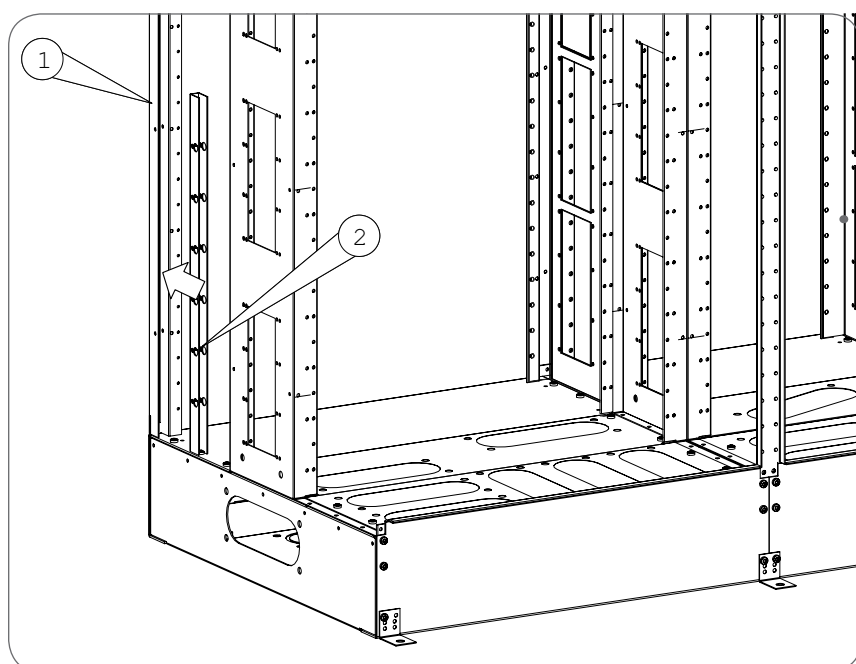

Fig. 2.18. Before installing support insulator systems, insert required number of flash barriers for corner profiles.
Before installing busbar insulator adapters or Kutet1 support insulators it is advisable to insert flash barriers (2) into joint back profiles (1) in the corners of 600 mm cell centres. Flash barriers for corner profiles are installed according to Fig. 2.18.